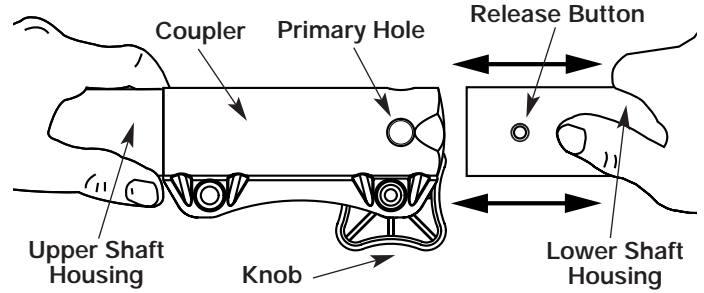

Fig. 6
3. While firmly holding the upper shaft housing, pull the blower/vacuum add-on out of the coupler (Fig. 6).
3. While firmly holding the add-on, push it straight into the coupler (Fig. 6).
CAUTION: Lock the release button in the primary hole (Fig. 6) and securely tighten the knob before operating this unit.